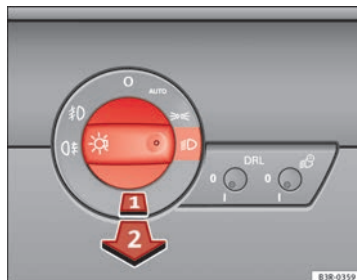

Fig. 84 Detailed view of the dash panel: Light switch
- Turn the light switch \Rightarrow fig. 84 to position ☞ .
- Do  ⇒ fig. 84 **not** turn the light switch to the symbol .
- First turn the light switch  ⇒ fig. 84 to the position  or .